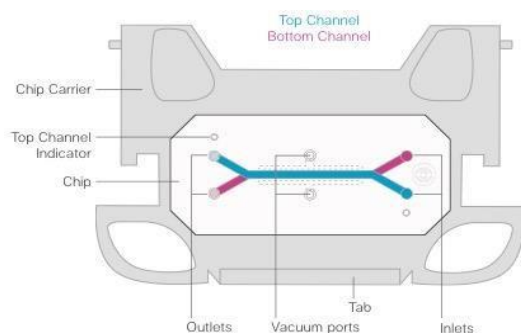

Figure 2: Top view of chip, with labelled ports in Chip Carrier
- Introduce approximately 50  $\mu\text{L}$  of ER-1 solution to the top channel inlet, pipetting until the solution begins to exit the top channel outlet (See Figure 2 below).